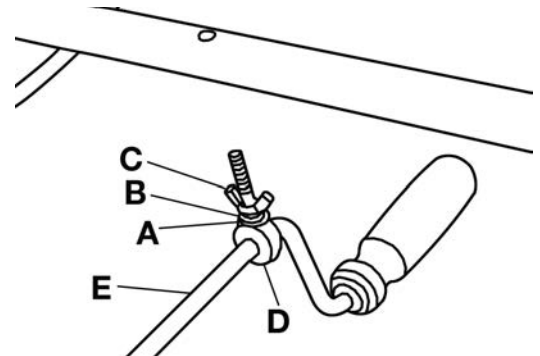

FIGURE 16
15. Remove the washer (A) Fig.16, spring washer (B) and wing nut (C) from the eye bolt with rubber grommet (D) found on the upper chute crank (E).